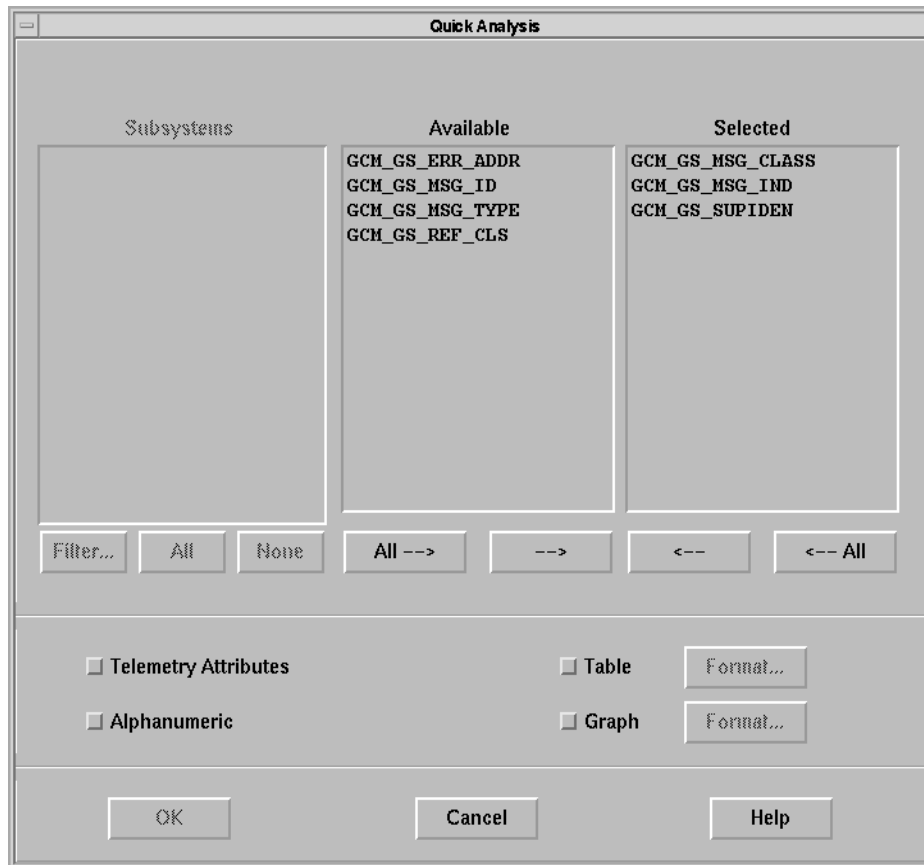

Figure 7.10.2-1. Quick Analysis Window
2. **Open the Quick Analysis window (see Figure 7.10.2-1).**
If the **Table** display option is selected, open the Table Format dialog box (see Figure 7.10.2.-2) by clicking **Format....**
If the **Graph** display option is selected, open the Graph Format dialog box (see Figure 7.10.2-3) by clicking **Format....**